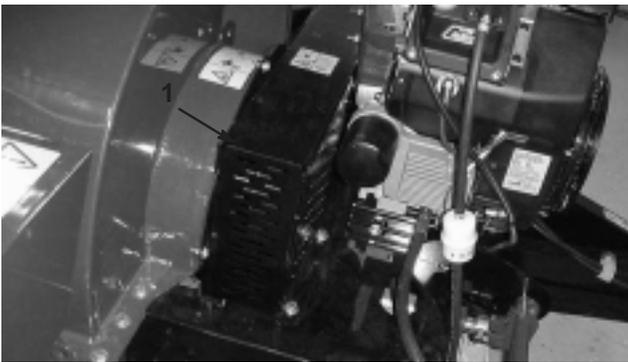

Figure 24
1. Remove the capscrews, washers and nuts securing the belt guard to the blower housing (Fig. 24). Remove the guard.